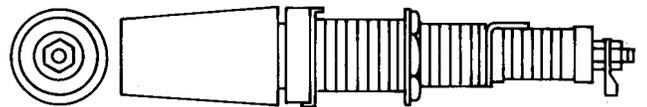

Fig. 18—399 Jack
2.18 399: This single-conductor jack (Fig. 18) is used with the 278A plug and is used on the No. 5 toll testboard. This jack is provided with a metallic guard to reduce current leakage between the current carrying member and the mounting surface. The exposed portion of the jack is provided with a removable dust cap.